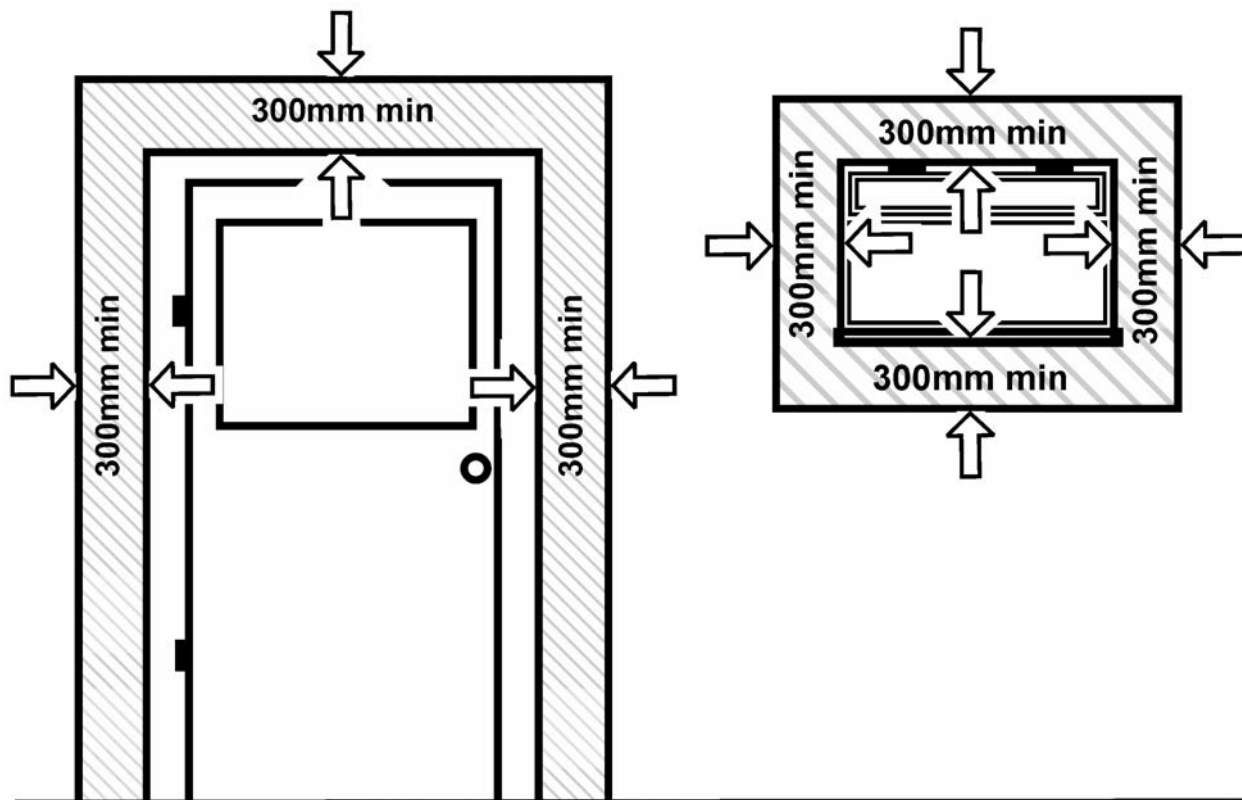

Figure 4.
*In addition, the terminal should not be nearer than 300mm to an opening in the building fabric formed for the purpose of accommodating a built-in element such as a window frame or door frame (See figure 4).